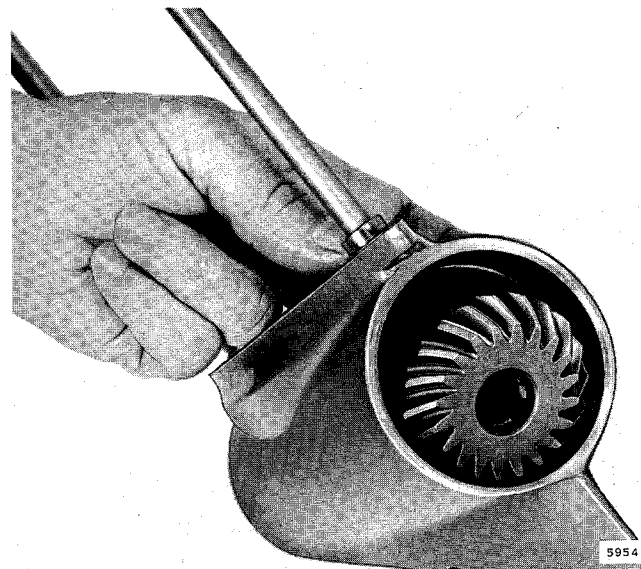

Figure 6-20. Removing Drive Pinion
k. Tilt the pinion gear toward the rear and withdraw it through the gearcase head opening. See Figure 6-20. The forward drive gear and bearing will drop out if gearcase is turned over.